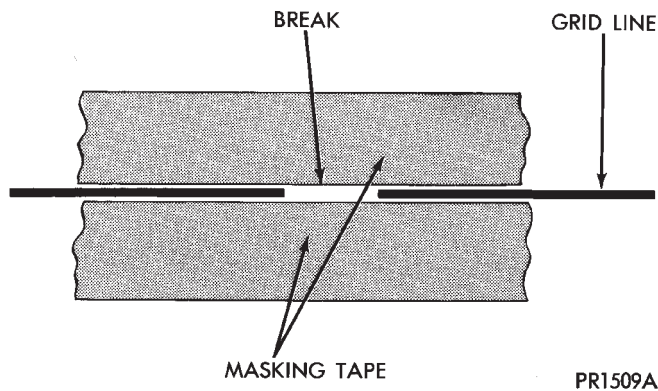

Fig. 1 Grid Line Repair (Typical)
(1) Mark the location of the broken or open grid on the exterior surface of the glass using a suitable marking pencil.
(2) Lightly rub the area to be repaired (inside the rear window) using fine steel wool. Clean the area with alcohol.
(3) Attach two strips of masking tape to the inside surface of the rear window (above and below the break in the grid) (Fig. 1).